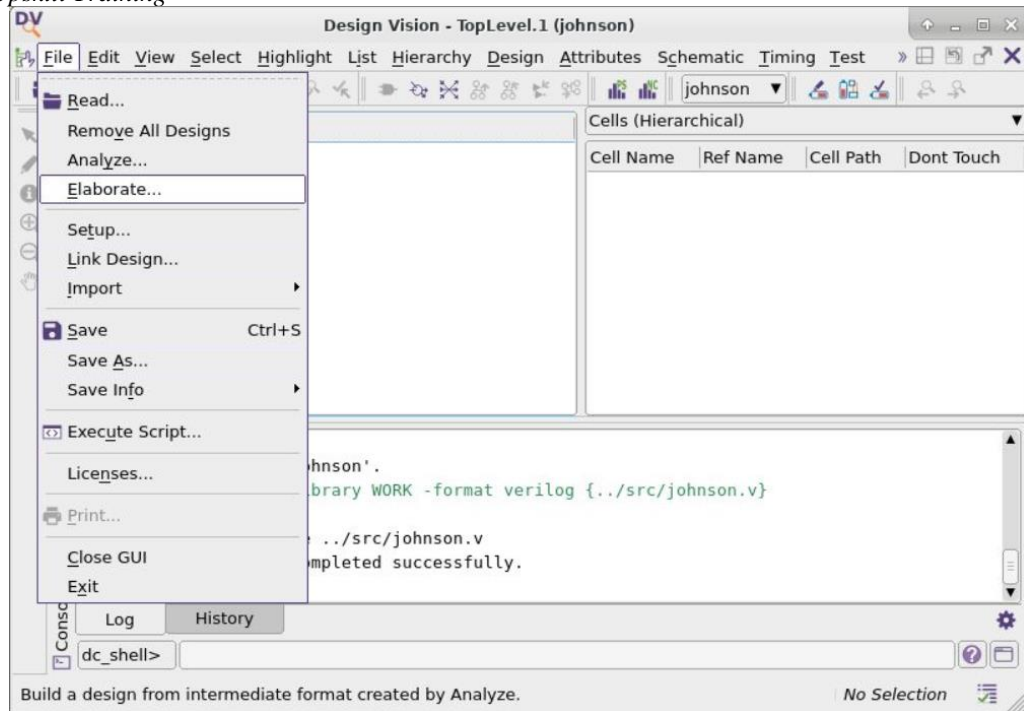
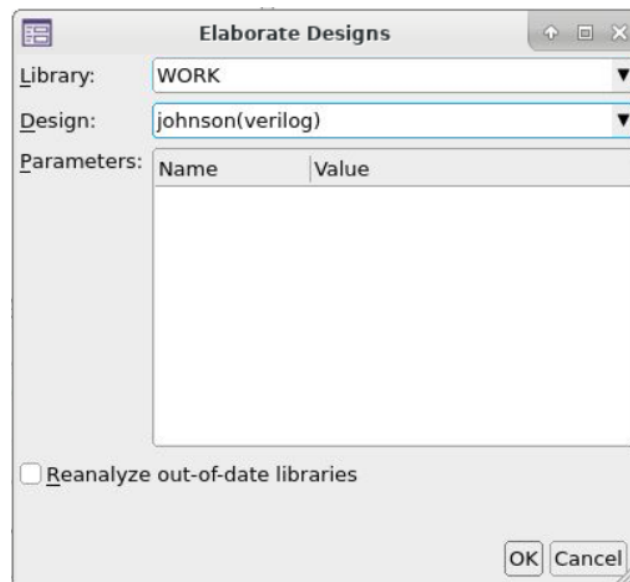

Fig. 9. Elaborate designs
Fig. 10. Elaborate designs box
- Use options to the elaborate command as in Fig. 9 and Fig. 10